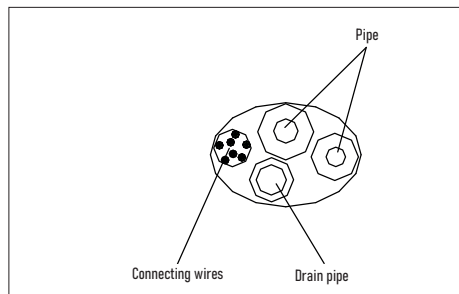

Figure 6
- Place the connecting tubes, cable and drain hose as shown in Fig. 6, then connect the drain hose to the drain port. The drain hose should extend with a slight downward gradient. Bundle the connecting tubes, cables and drain hose together with vinyl tape. Ensure a sufficient space between the drain hose and the ground. Do not put the drain tube into water or a ditch.